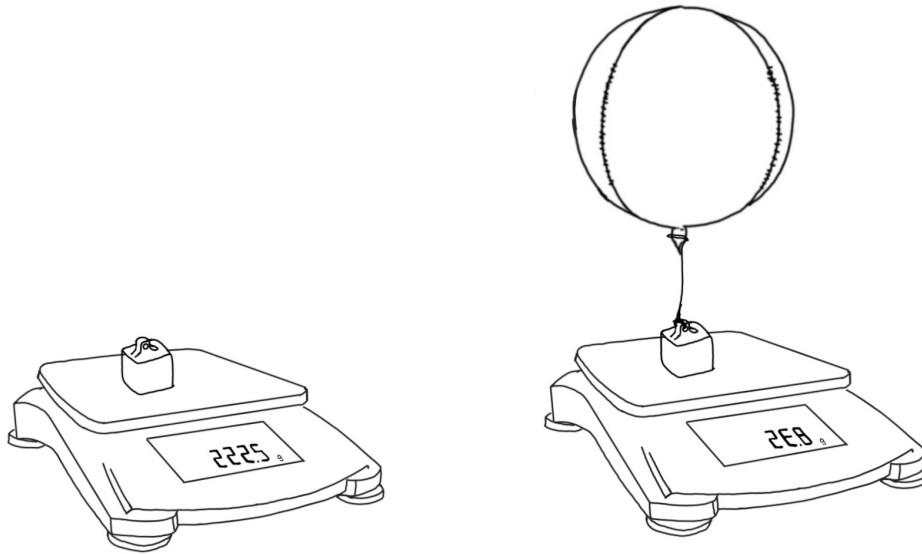

Figure 2: A schematic of measuring the volume of a balloon
- The experiment can be seen from the Fig. 2